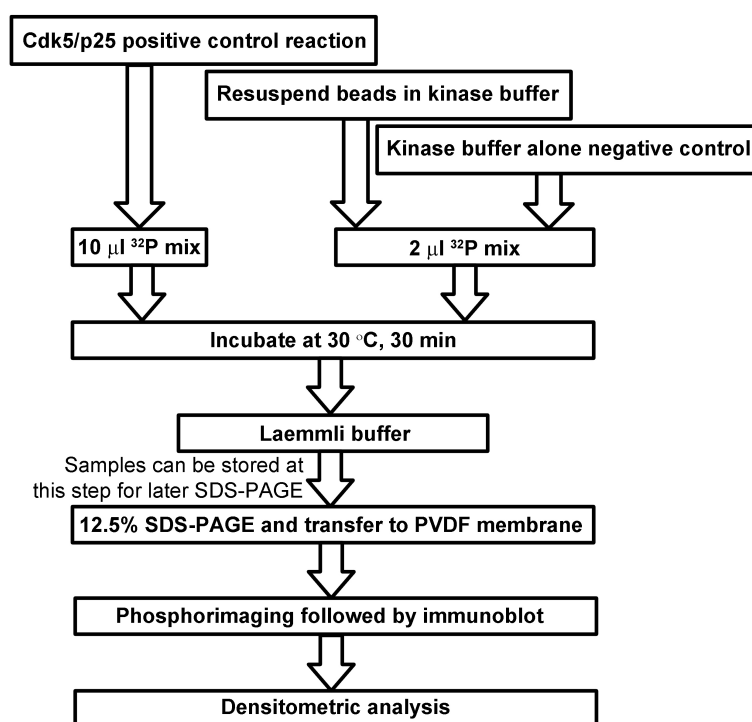

Figure 3. Scheme for Cdk5 kinase assay, SDS-PAGE, and detection
2. Prepare a reaction with recombinant Cdk5/p25 for a positive control (general scheme for Cdk5 kinase assay and controls in Figure 3).